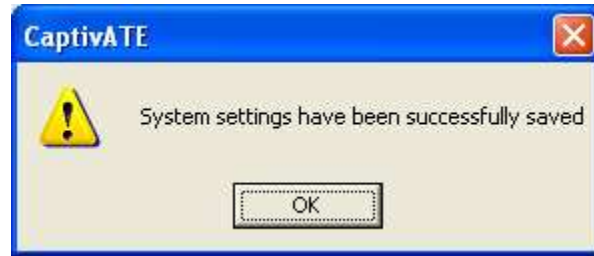

Figure 57 Updated System Settings Pop-up
*NOTE: Changes to any of the Device Settings must be followed by clicking the **Update Settings** button at the bottom of the Admin Settings screen. Once you update any setting, the message shown Figure 57 appears.*